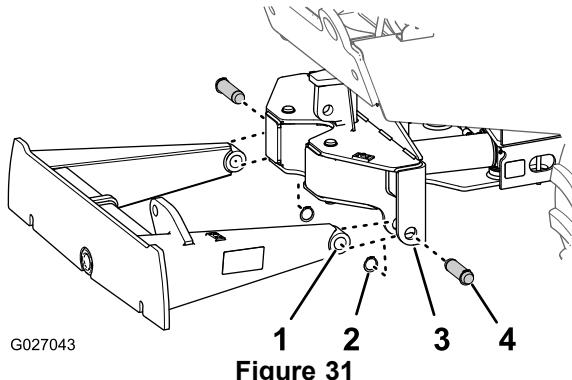

Figure 31
4. Align the holes in the fittings with the holes in the flanges (Figure 31).
5. Insert a pin (1-1/2 x 5-1/4 inch) through the holes in the fitting and flanges at 1 side of the machine (Figure 31).
6. Secure the pin with a snap ring (1-3/8 inch) as shown in Figure 31.
3. Align the fittings at the end of the lift arms with the lift flanges of the pivot frame (Figure 31).